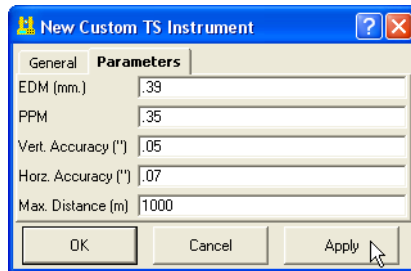

Figure 5-80. New Custom TS Instrument – Parameters
- Click the **Parameters** tab and enter the *EDM*, *PPM*, vertical and horizontal accuracies, and maximum distance (Figure 5-80).